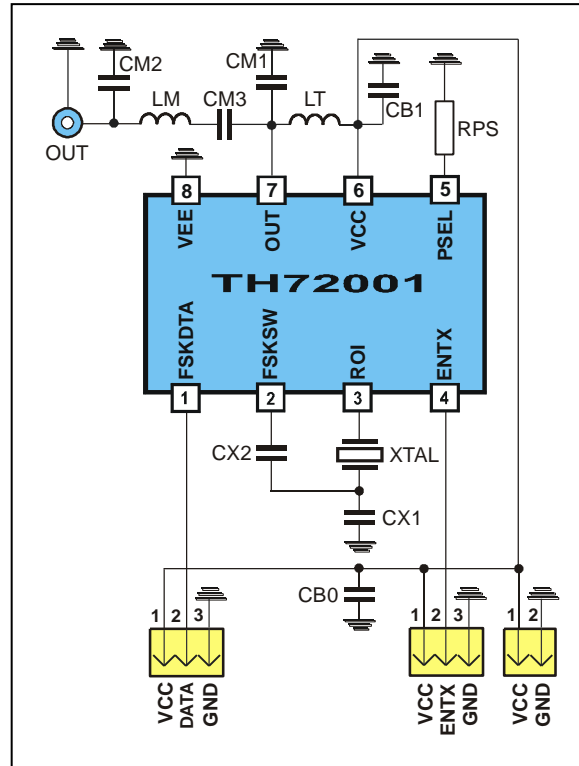

Fig. 18: Test circuit for FSK with 50 Ω matching network
typical values at  $T_A = 23\text{ °C}$  and  $V_{CC} = 3\text{ V}$ ; test circuit shown in Fig. 18,  $f_c = 315\text{ MHz}$
- Data according to test circuit in Fig. 18
### 6.1. Test circuit component list to Fig. 18